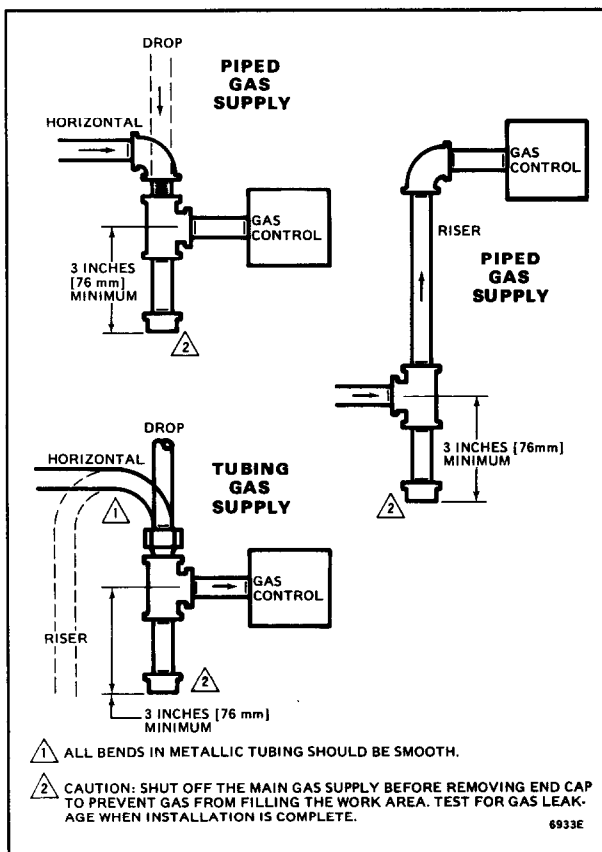

FIG. 3—INSTALL SEDIMENT TRAP.
3. Install sediment trap in the supply line to the gas control. See Fig. 3.